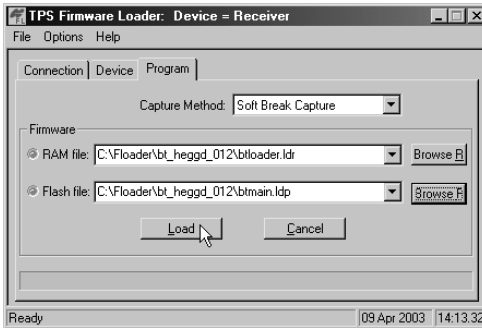

Figure 3-31. Program Tab Settings
3. Select the *Program* tab and set the **Capture Method** to Soft Break Capture (recommended). Browse for and select the Bluetooth module's RAM file and Flash file (Figure 3-31).